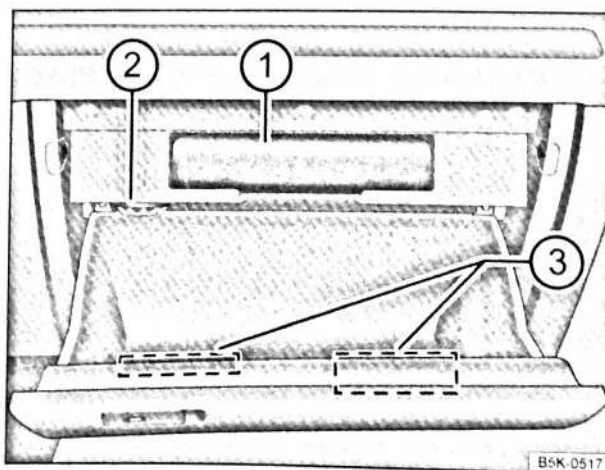

Fig. 114 Open stowage compartment on the front passenger side
The vehicle wallet can be stowed at the top of the stowage compartment $\Rightarrow$ Fig. 114 ①. $\blacktriangleright$